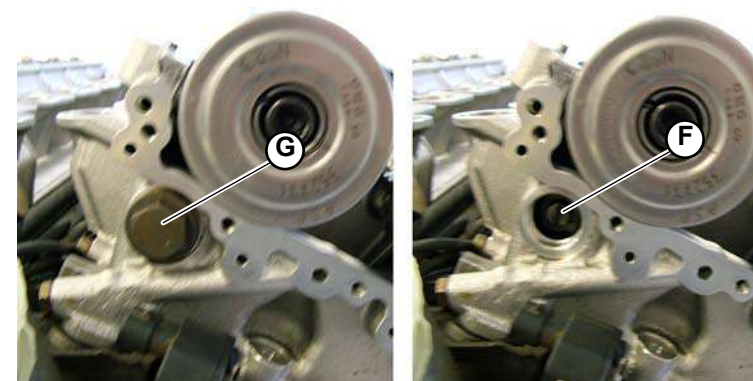

Fig.8
8. Move the side shoe, lock it by means of the screw (**F-Fig.8**) and then fit the plug (**G-Fig.8**).